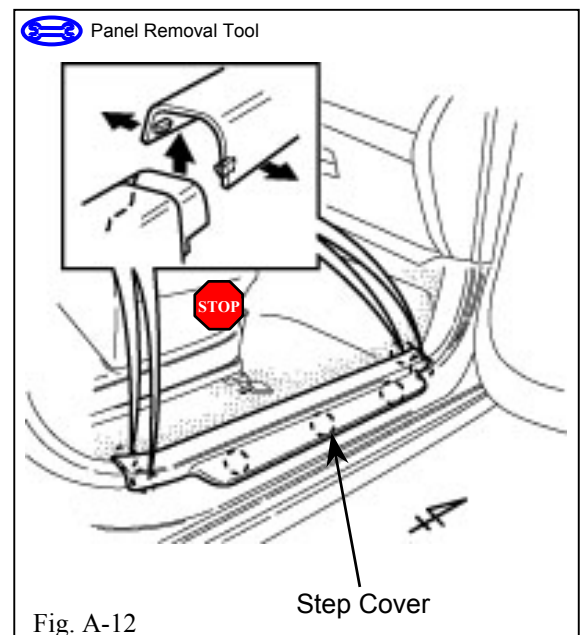

Fig. A-12
12. Using the Nylon Panel Removal Tool, remove the passenger side step cover. (Fig. A-12)